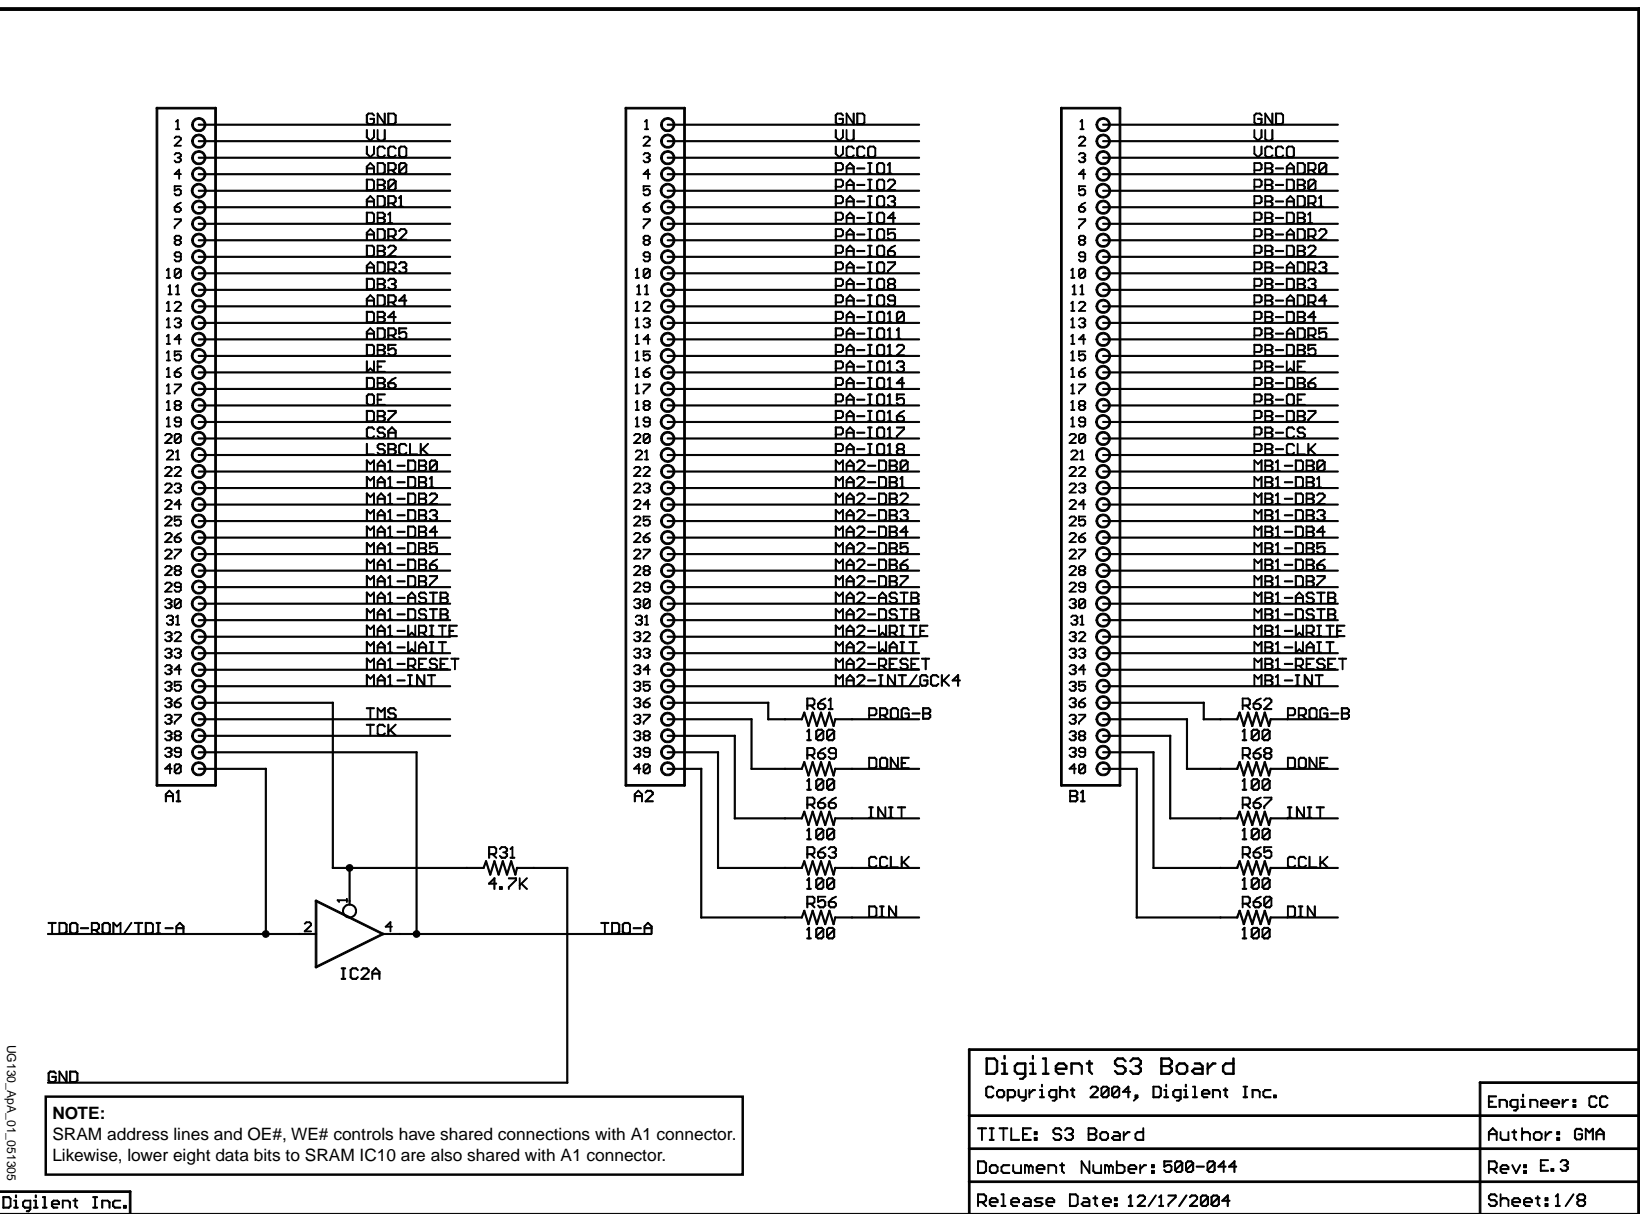

Figure A-1: A1, A2, and B1 Expansion Connectors
- Figure A-1, "A1, A2, and B1 Expansion Connectors"